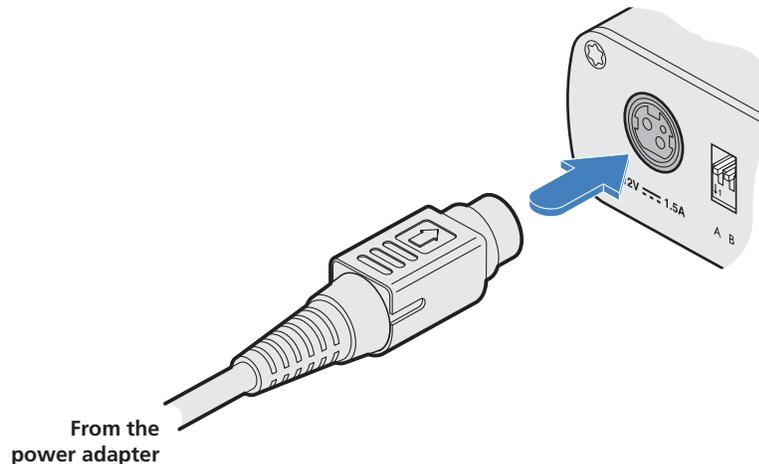

Figure 3-14. Attaching the power adapter output plug to the input socket.
1. Attach the output plug of the supplied power adapter to the power input socket on the left side of the rear panel. See Figure 3-14.